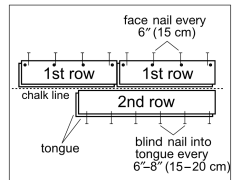

Figure 9
- If using finish nails, pre-drill the nail holes with a 1/32" (2 mm) bit approximately 1/2" (13 mm) from back (groove) edge, 1"-3" (2.5-7.6 cm) from each end, and at 6" (15 cm) intervals. Pre-drill at the same intervals at a 45° angle down through the nailing "pocket" on top of the tongue (Figure 9). Face-nail the groove side where pre-drilled. When complete, blind-nail at a 45° angle through the tongue of the first row. Fasten using 6 or 8d finish nails. Countersink nails to ensure flush engagement of the groove. Avoid bruising the hardwood by using a nail set to countersink the nails.